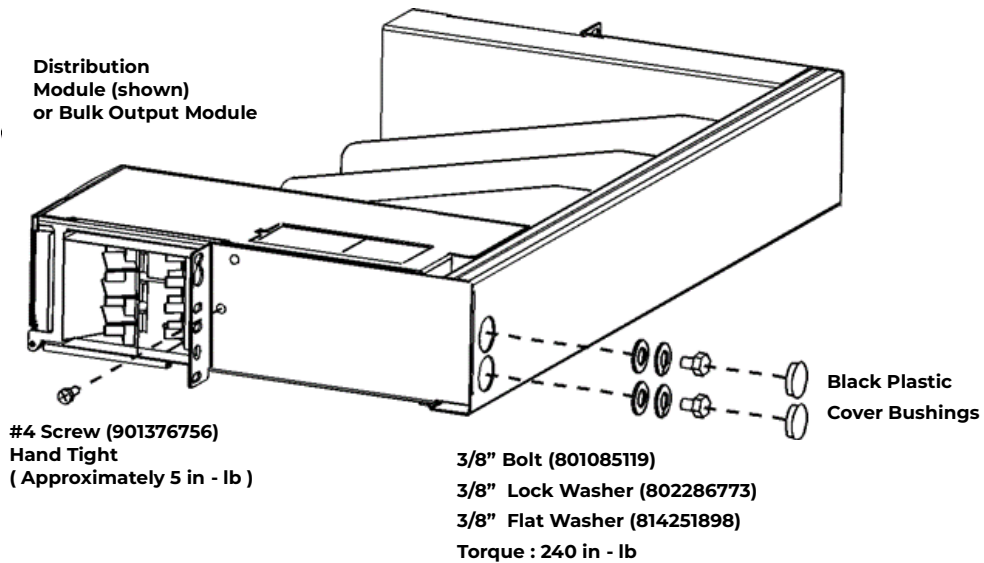

Figure 5-3: Distribution Module
9.	Insert one #4 Screw on the right side of the shelf, hand tight to approximately 5 in-lb. See Figure 5-3.